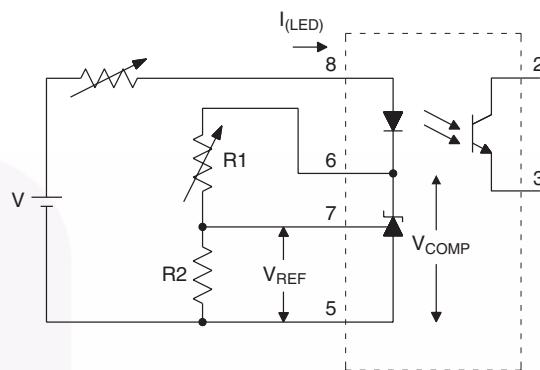

Figure 2. $\Delta V_{REF}/\Delta V_{COMP}$ Test Circuit
| $\frac{\Delta V_{REF}}{\Delta V_{COMP}}$ | Ratio of V_{REF} Variation to the Output of the Error Amplifier (Fig. 2) | $I_{LED} = 10\text{mA}$ | All | | -0.5 | -2.7 | mV/V |
2. The dynamic impedance is defined as $|Z_{OUT}| = \Delta V_{COMP}/\Delta I_{LED}$. When the device is operating with two external resistors (see Figure 2), the total dynamic impedance of the circuit is given by: